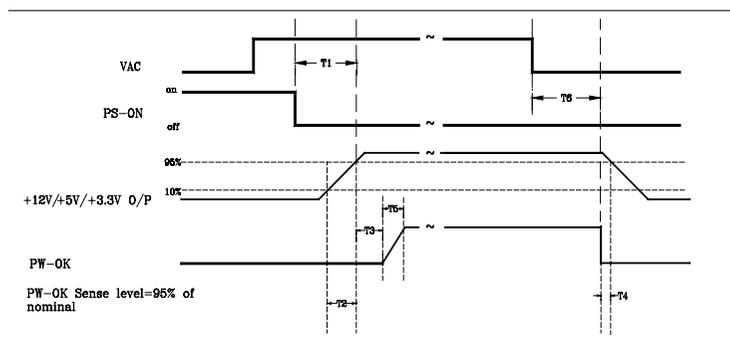

Figure 2. PS-OK Timing Sequence
Figure 2 is a reference for signal timing for main power connector signals and rails.
4.3 Hold up time (T6 of figure 2.)